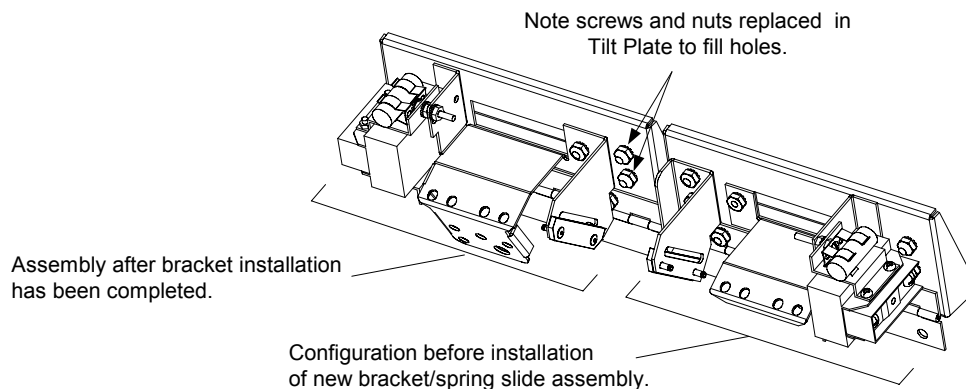

Fig. 16
3. Mount the new one-piece element support bracket/spring slide assembly, and reinstall the tilt switch and high limit assembly removed in Step 1 (see Fig 16).